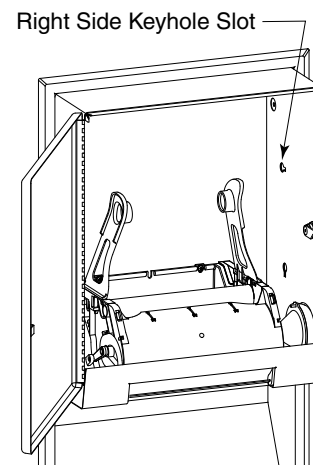

Figure 3
3. Insert one set of mounting hardware, the 3961-25 Carriage Bolt with the 3961-24 Washer Lock Nut, into the round portion of the upper right or left side keyhole slot from the inside of the housing with the head of the 3961-25 Carriage Bolt going in first. Position the square shoulder of the 3961-25 Carriage Bolt so that it is parallel with the straight sides of the keyhole slot and slide the entire assembly as far over as it will go. The square shoulder of the 3961-25 Carriage Bolt should be in contact with the end of the rectangular portion of the key slot to ensure proper seating of the mounting hardware. (See Figures 3 & 4).